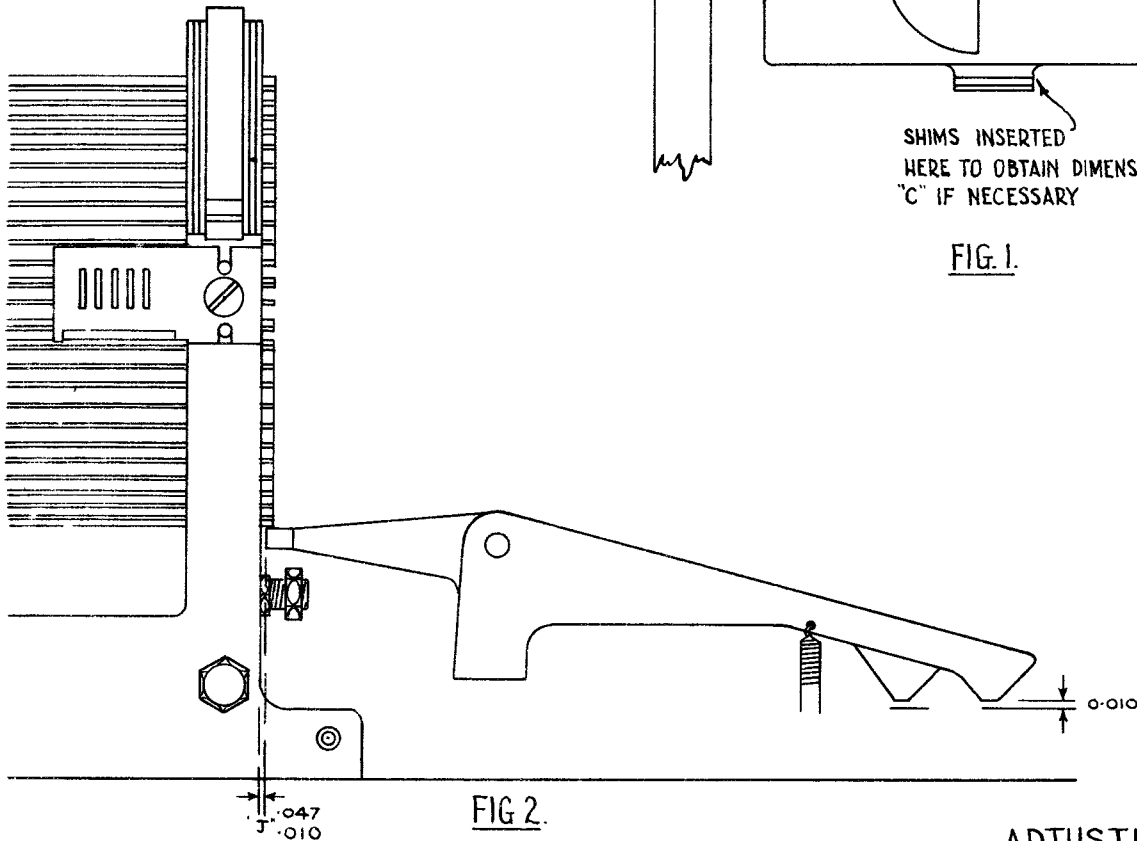

FIG. 2.
4. ALLOW CONTROL LEVERS TO REST AGAINST THEIR BELLCRANKS (FIG 2). THE SHOES SHOULD REST CENTRALLY ON THEIR BELLCRANKS AND SATISFY DIMENSION "j". THE CONTROL LEVERS SHOULD CLEAR THEIR FEED DOGS BY AT LEAST 0.010" IN THE UNOPERATED CONDITION.